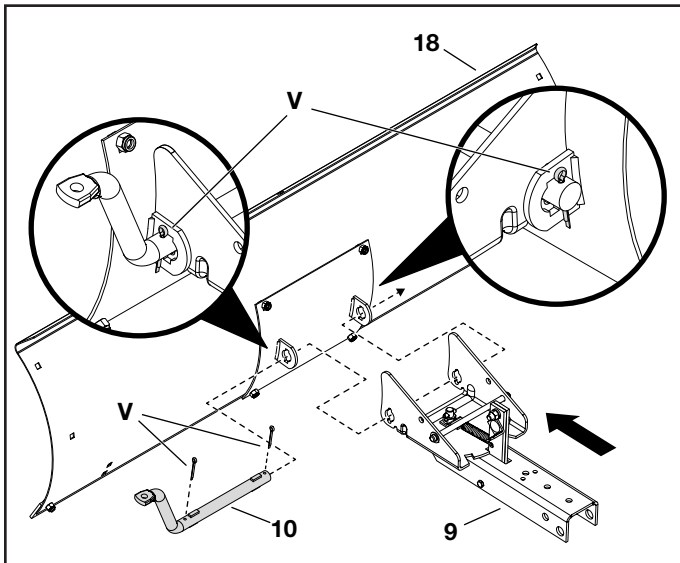

FIGURE 6
STEP 6: (SEE FIGURE 6)
- Center the channel sub assembly (9) between the tabs on the back of the blade assembly (18).
- Slide the blade pivot shaft (10) through the holes in the tabs and the holes in the channel sub assembly (9).
- Secure the blade pivot shaft (10) on both ends using two cotter pins (V) by bending the ends.